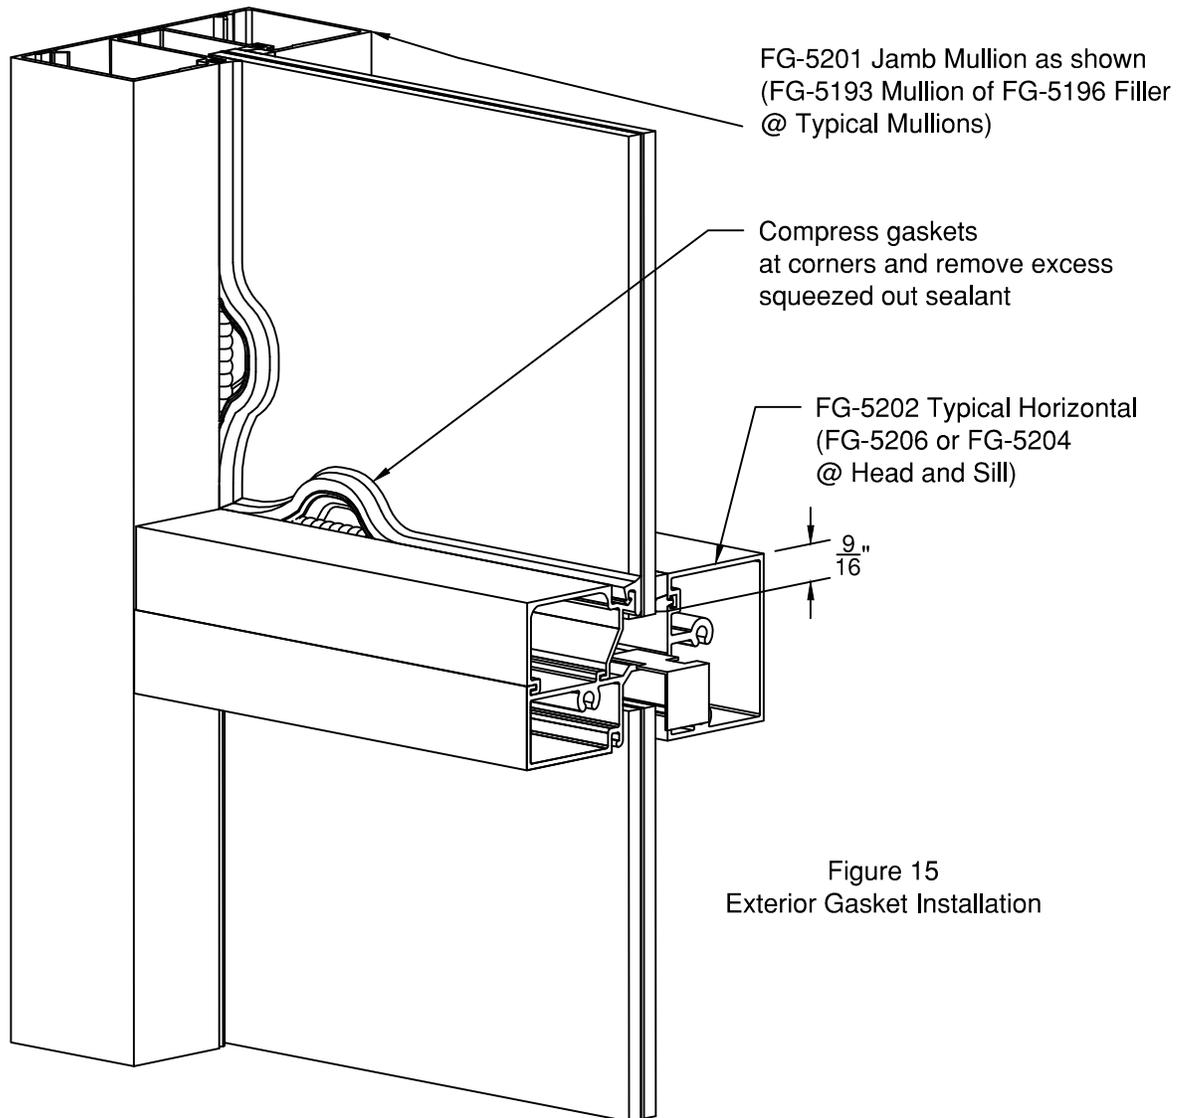

Figure 15
- 4W.2.5 After gaskets are pressed in place. Pull gasket from pocket as shown in Figure 13 above. Clean glass and gaskets a minimum of 2" from each end with isopropyl alcohol. Apply Dow Corning 795/995 sealant see Figure 14. Push gaskets into reglet, **See Figure 15 on page 18**.